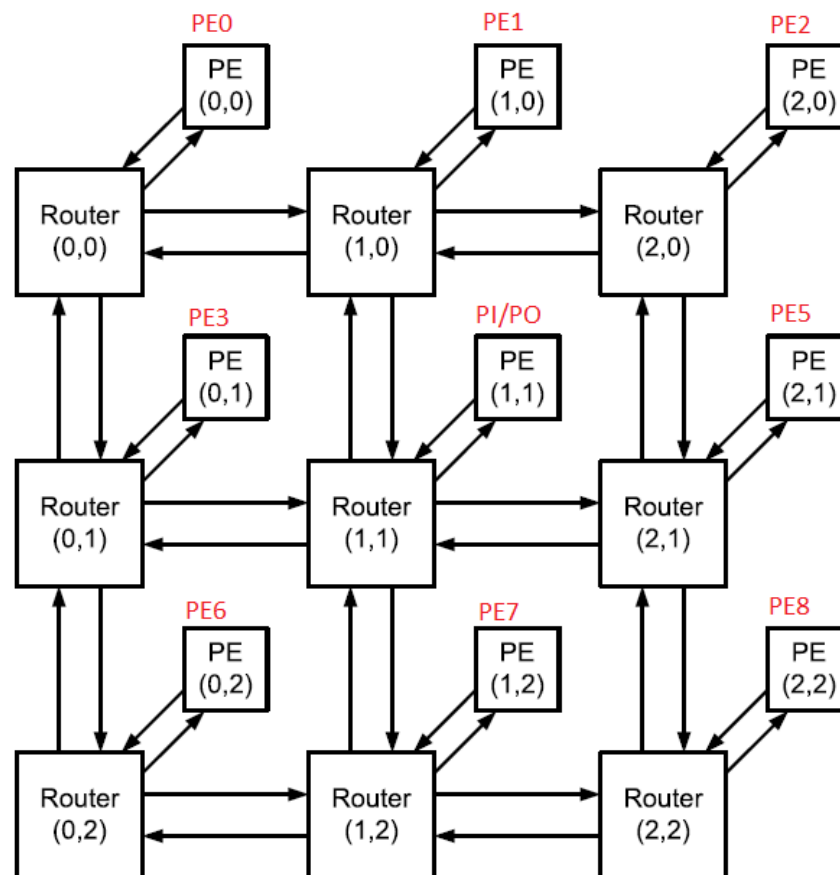

Figure 1: 2-D Mesh NoC Architecture
First of all, I need to build a 3×3 network of routers and each router is connected to one processing element (PE). As shown in Figure 1, we could find that each router has a particular location (x, y) as well as the PE it is connected to and routers only have horizontal and vertical connections which connect all routers together.